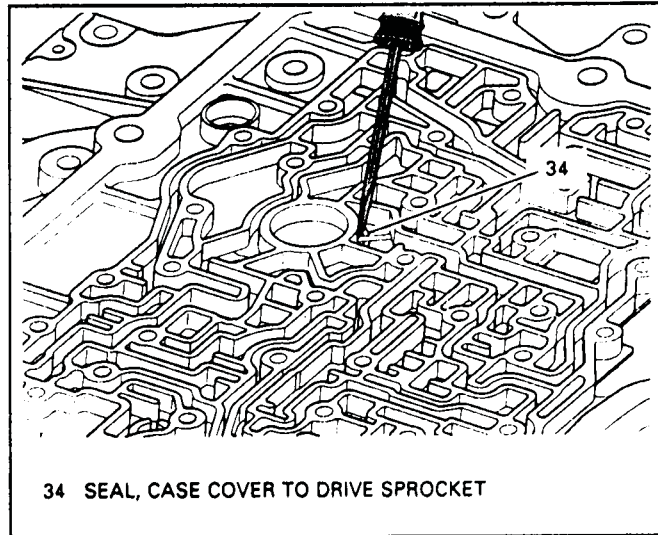

Figure 107
2. Remove case cover to drive sprocket seal using a small screwdriver and tap out through slots in case cover, as shown in Figure 107.